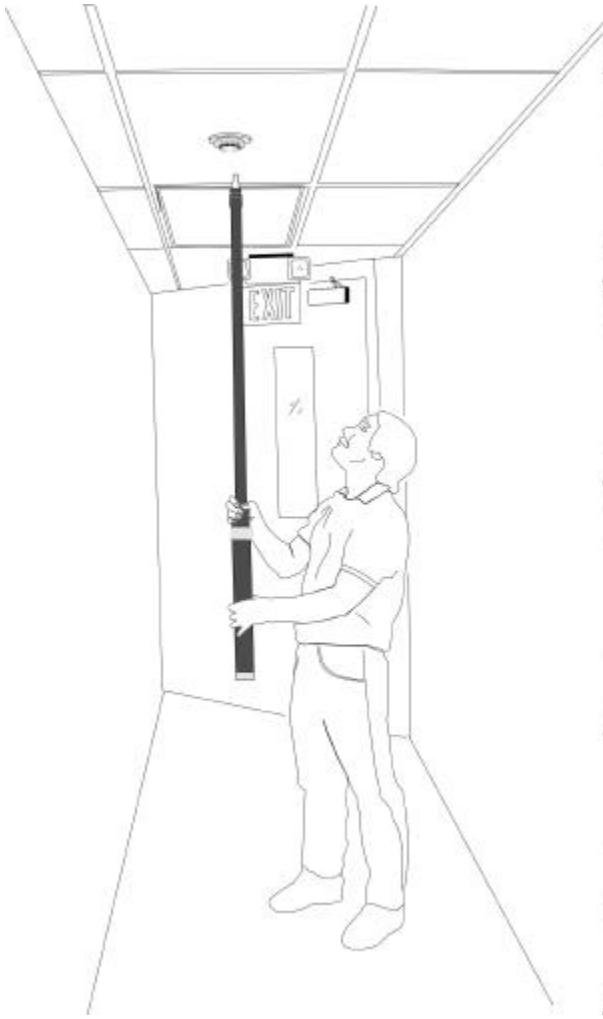

Figure 6: Operating the TSE-A100 Smoke Tester
3. Hold test by the sensor until it alarms. See Figure 6.